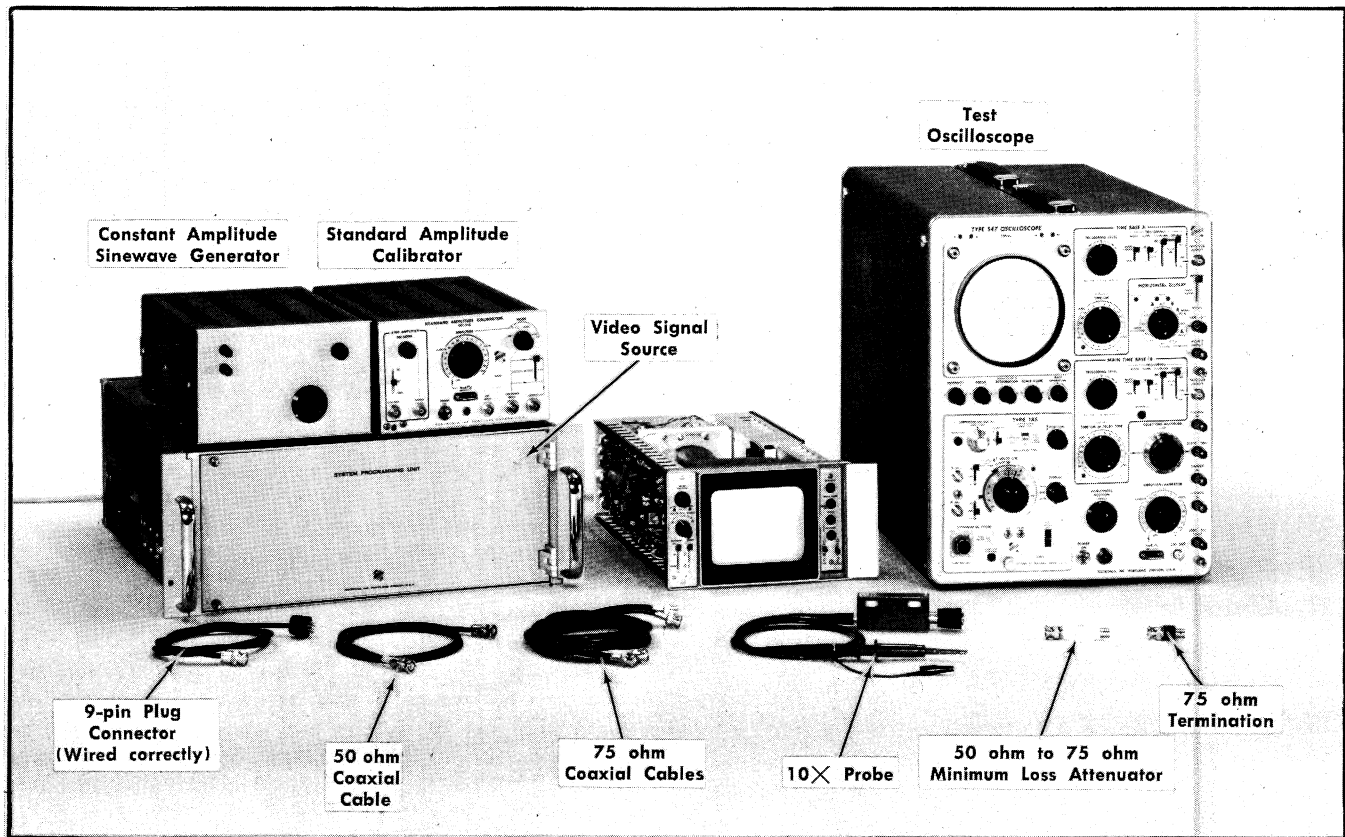

Fig. 5-10. Initial calibration test equipment setup for steps 20 through 22.
a. Test equipment setup is shown in Fig. 5-10.